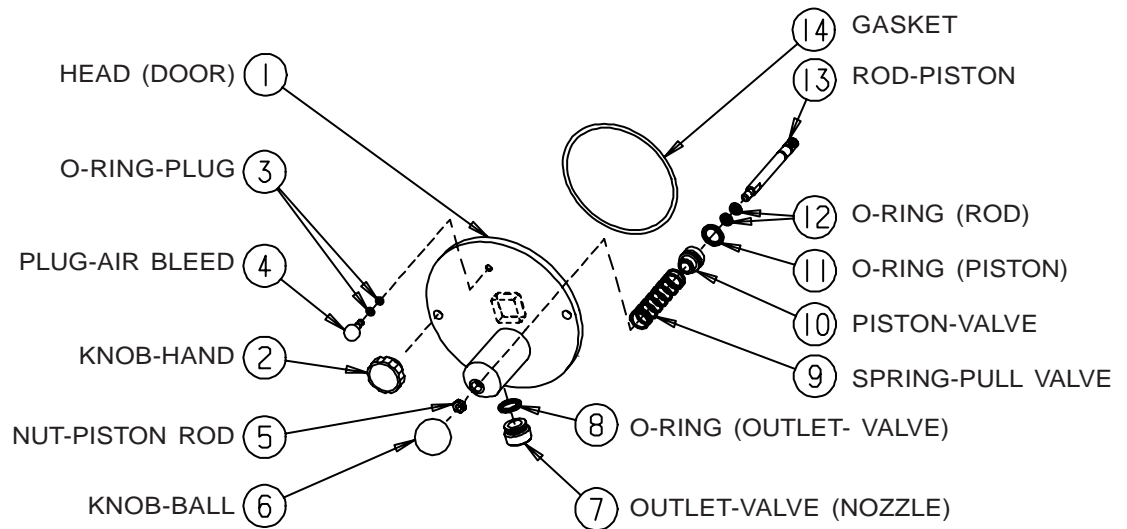
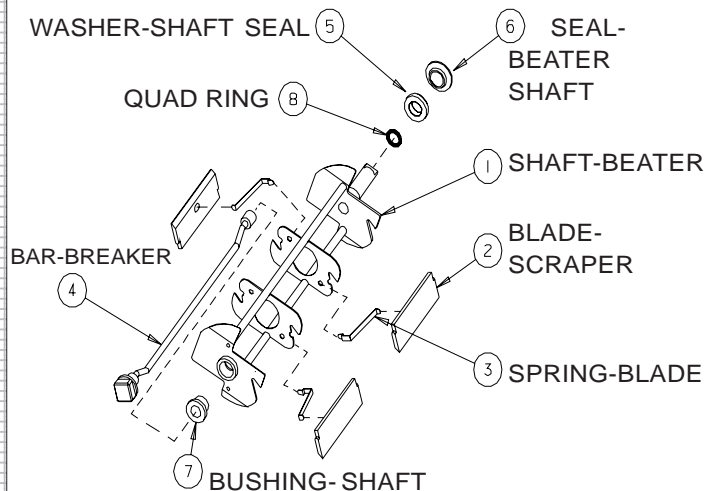
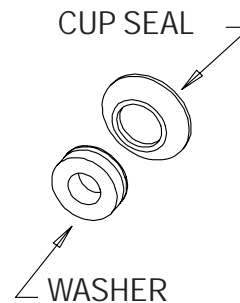

Figure 6-2
Figure 6-3 Beater Shaft
Figure 6-4 Shaft Seal Assembly
1. Remove the two hand knobs (figure 6-2, item 2) and pull the dispensing head (1) straight out.
2. Remove the ball knob (6), nut (5), air bleed plug (4) and outlet-valve (7) from the head (1).
3. Remove the piston assembly (10, 11, 12, 13) and spring (9) by pushing the piston rod (13) through the back of the head (1).
4. Remove the O-rings (11, 12) from the piston assembly. Remove the O-ring (8) from the valve outlet (7). Remove two O-rings (3) from the air bleed plug (4).
5. Remove the head gasket (14) from the head (1).
6. Remove the beater shaft (figure 6-3, item 1) from the cylinder.
7. Remove scraper blades (2), springs (3), seal (5 and 6), quad ring (8), breaker bar (4), and bushing (7) from the beater shaft (1).
8. Remove the cup seal from the plastic washer on the shaft seal assembly as shown in figure 6-4.